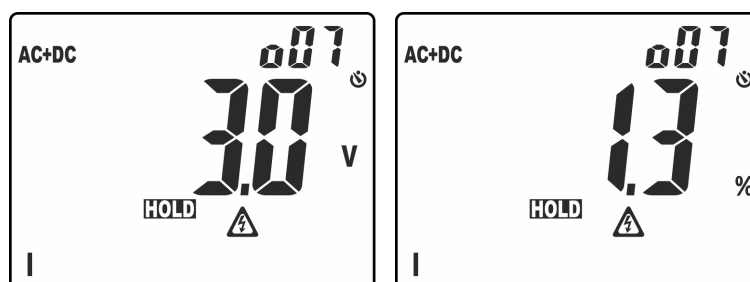

Fig. 4: Display of ordering of amplitude of harmonic analysis
- Long pressing of the key (at least 2s) in order to activate the **H₂O** (Higher Harmonic Ordering) ordering function of the amplitude of harmonics. In these conditions, function "HOLD" is automatically activated and symbol "o" appears next to the displayed harmonic order to indicate that the Ordering function is activated. The bargraph is disabled and the instrument shows the value of amplitude of all the harmonics between the DC value and the 25th, fundamental harmonic excluded, in a **decreasing order** starting from the harmonic with the highest amplitude, as shown in Fig. 4
In the example in Fig. 4, the harmonic with the highest value corresponds to the 7th. Press key \blacktriangle to observe the amplitude of the remaining harmonics and press key **H/H%/H $\bar{\square}$** again to switch between display in absolute and percentage values. Turn the rotary switch to exit the function.